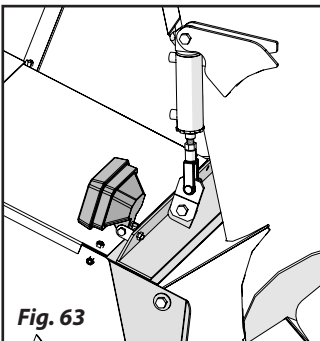

Fig. 63
- Install the field light. Figure 63.